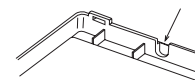
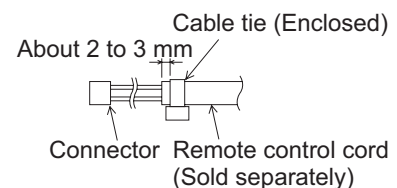

Fig. 8-3
Fig. 8-4
- (2) To enable the receiver's wiring to stick out from the upper part of the case (thin part at center-top), use side-cutters or the like to cut a hole in the case big enough for the remote control cord (sold separately). (Fig. 8-3)
- (3) Disconnect the wires that were connected at shipment from the connector.
- (4) After installing the remote control cord (sold separately) at the position in Fig. 8-4 with the enclosed cable tie, connect it to the connector on the receiver.